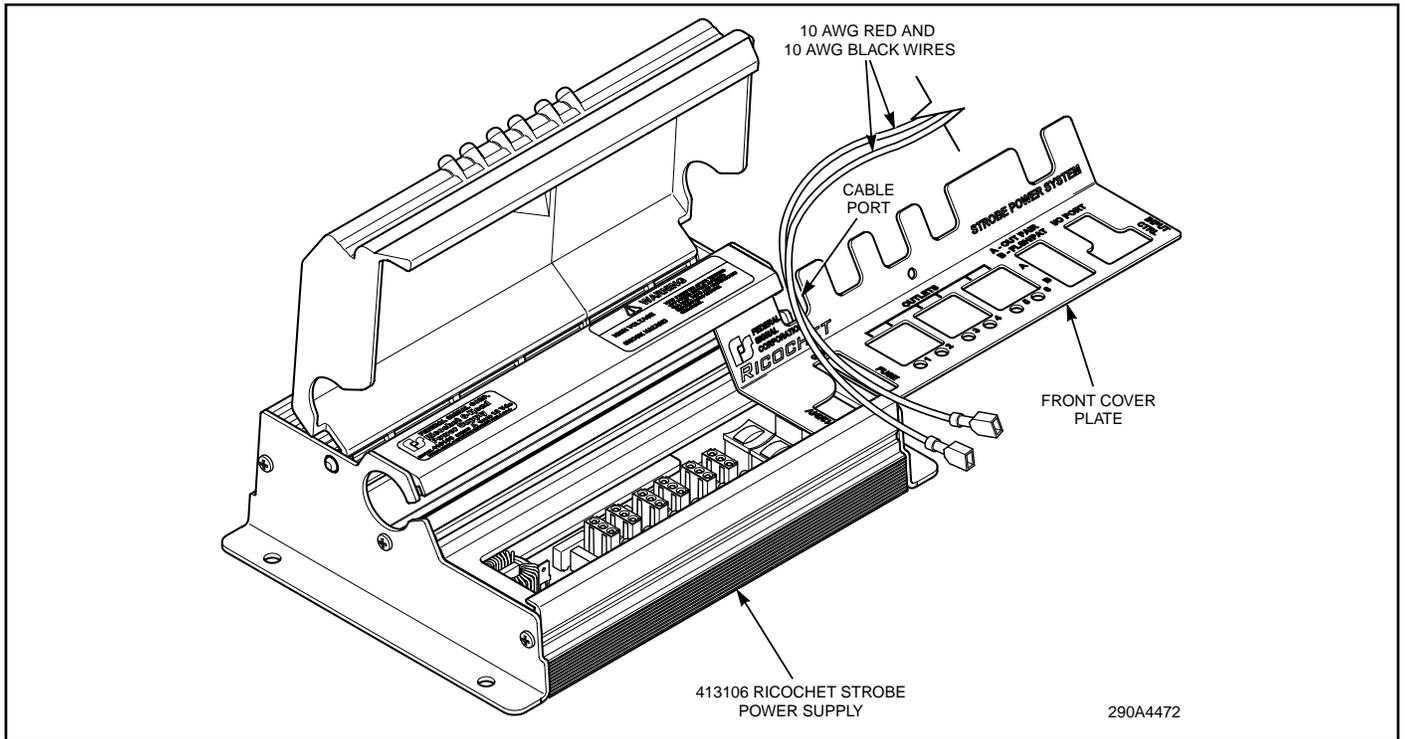

Figure 4.
11. Insert the 10AWG red and 10AWG black wires into the cable slot directly over the “+12/24V” and “GND” opening on the cover plate, leaving about 2" of wire extending through toward the front of the power supply. Slide cover plate into the extruded housing, leaving the next cable slot exposed out of the extruded housing. See figure 4.